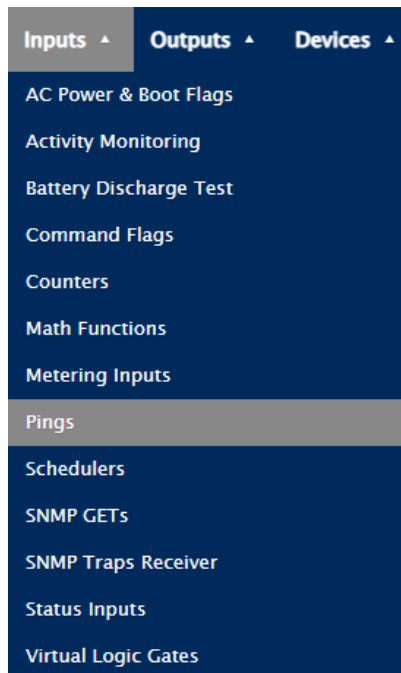
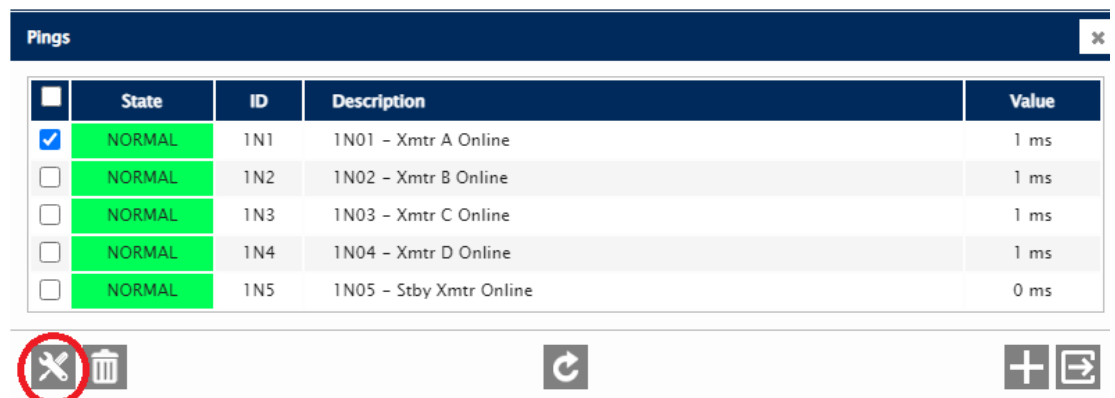

Figure 2-12: Input -> Pings selection
Figure 2-13: Input - Pings screen
- (a) From the top menus, select **Input -> Pings** (see Figure 2-12). The Pings screen in Figure 2-13 will display.